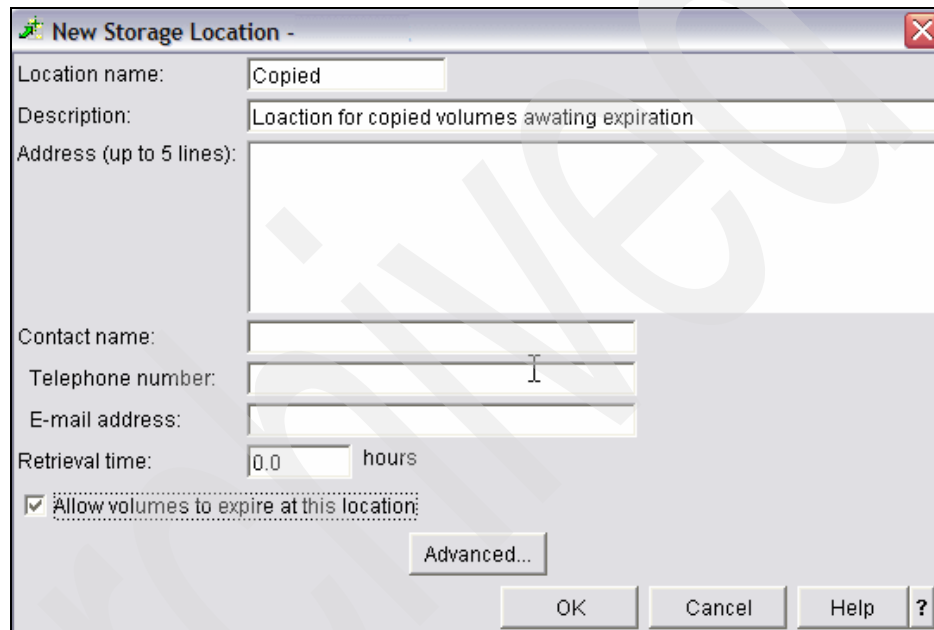

Figure 7-3 BRMS create location COPIED
5. Click **OK**, as shown in Figure 7-3.